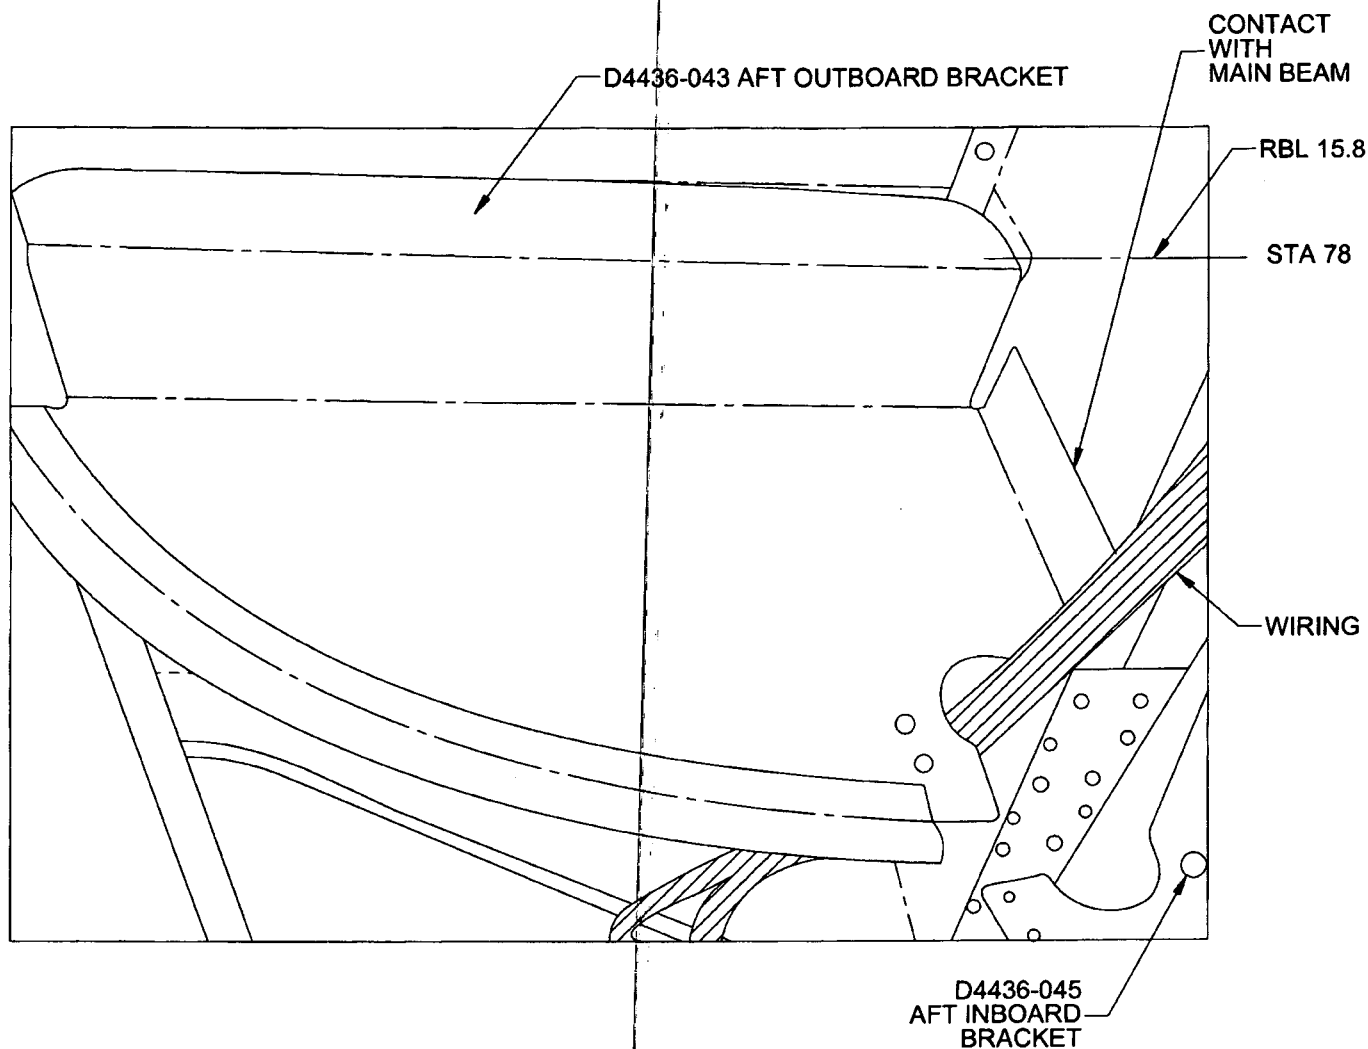

Figure 3. D4436-043 Aft Outboard Bracket Installation
- a) Position the D4436-043 Aft Outboard Bracket so the flange contacts the main beam as shown in Figure 3.